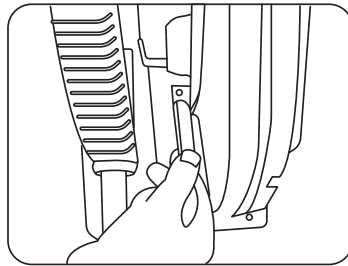

Fig 3
- Loosen the clamping screw on the depth guide and move the base up or down. At the desired depth of cut, secure the base by tightening the clamping screw.(Fig 3) For cleanser, safer cuts, set cut depth so that no more than a blade tooth length projects below workpiece surface. Using proper cut depth helps to reduce potential for dangerous KICKBACKS which can cause personal injury.